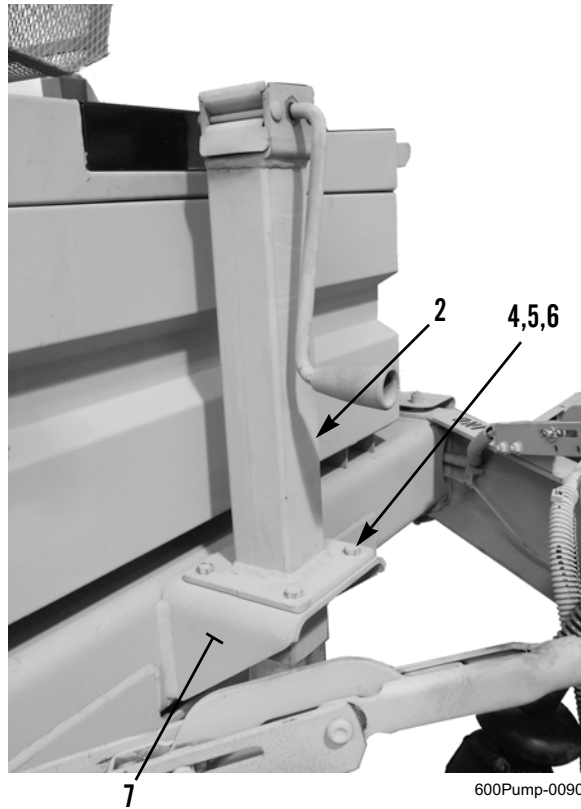

Figure 2. Front Leveling Jack Assembly.
6. Remove four locknuts (Figure 2, Item 4), washers (Figure 2, Item 5), bolts (Figure 2, Item 6), and front leveling jack assembly (Figure 2, Item 2) from mounting bracket (Figure 2, Item 7). Discard locknuts.
1. Install front leveling jack assembly (Figure 2, Item 2) on mounting bracket (Figure 2, Item 7) with four bolts (Figure 2, Item 6), washers (Figure 2, Item 5), and new locknuts (Figure 2, Item 4).